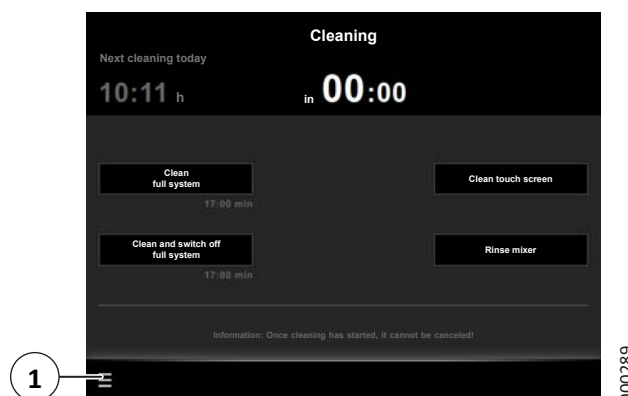

Fig. 40: Starting the cleaning program
2. On the display, press the menu symbol "≡" (1) (see Fig. 40) and then "Cleaning".